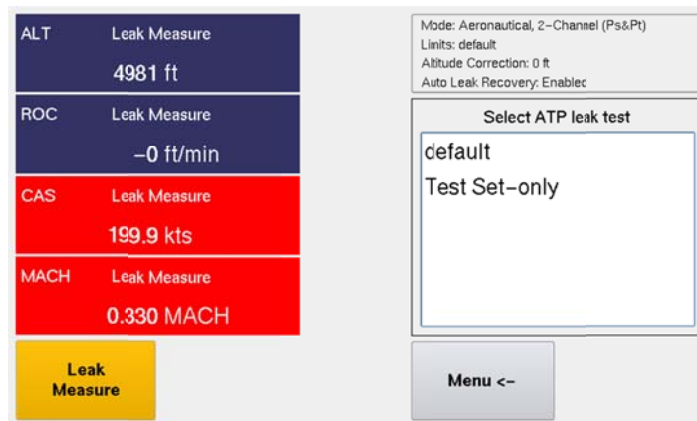
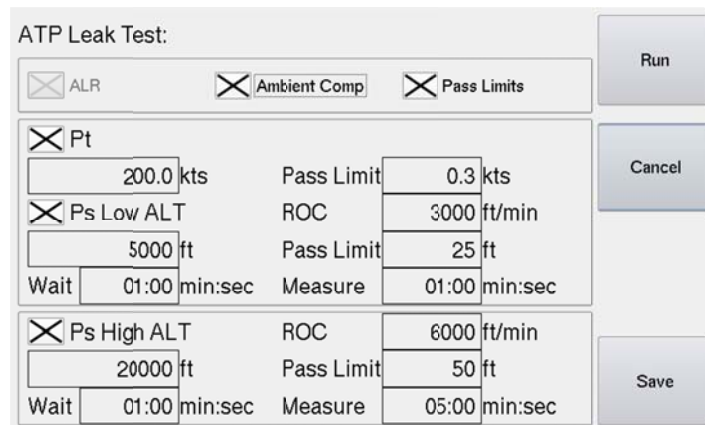

Figure 48 Selecting ATP Leak Test Profile
Figure 49 Leak Test Profile - Parameters Screen
- (4) There are **two methods** available for performing **Leak Testing** using the DPS1000:
- (b) Method-(2) **ATP Leak Test**: the DPS1000 has an automated feature called ATP Leak Test which allows the user to setup a profile ahead of time with the following parameters: (see Figure 48 and Figure 49) This is much more efficient since the user can select or create the profile and select RUN to execute the automated leak test and return when the ATP Leak Test has completed to review the leak test results.